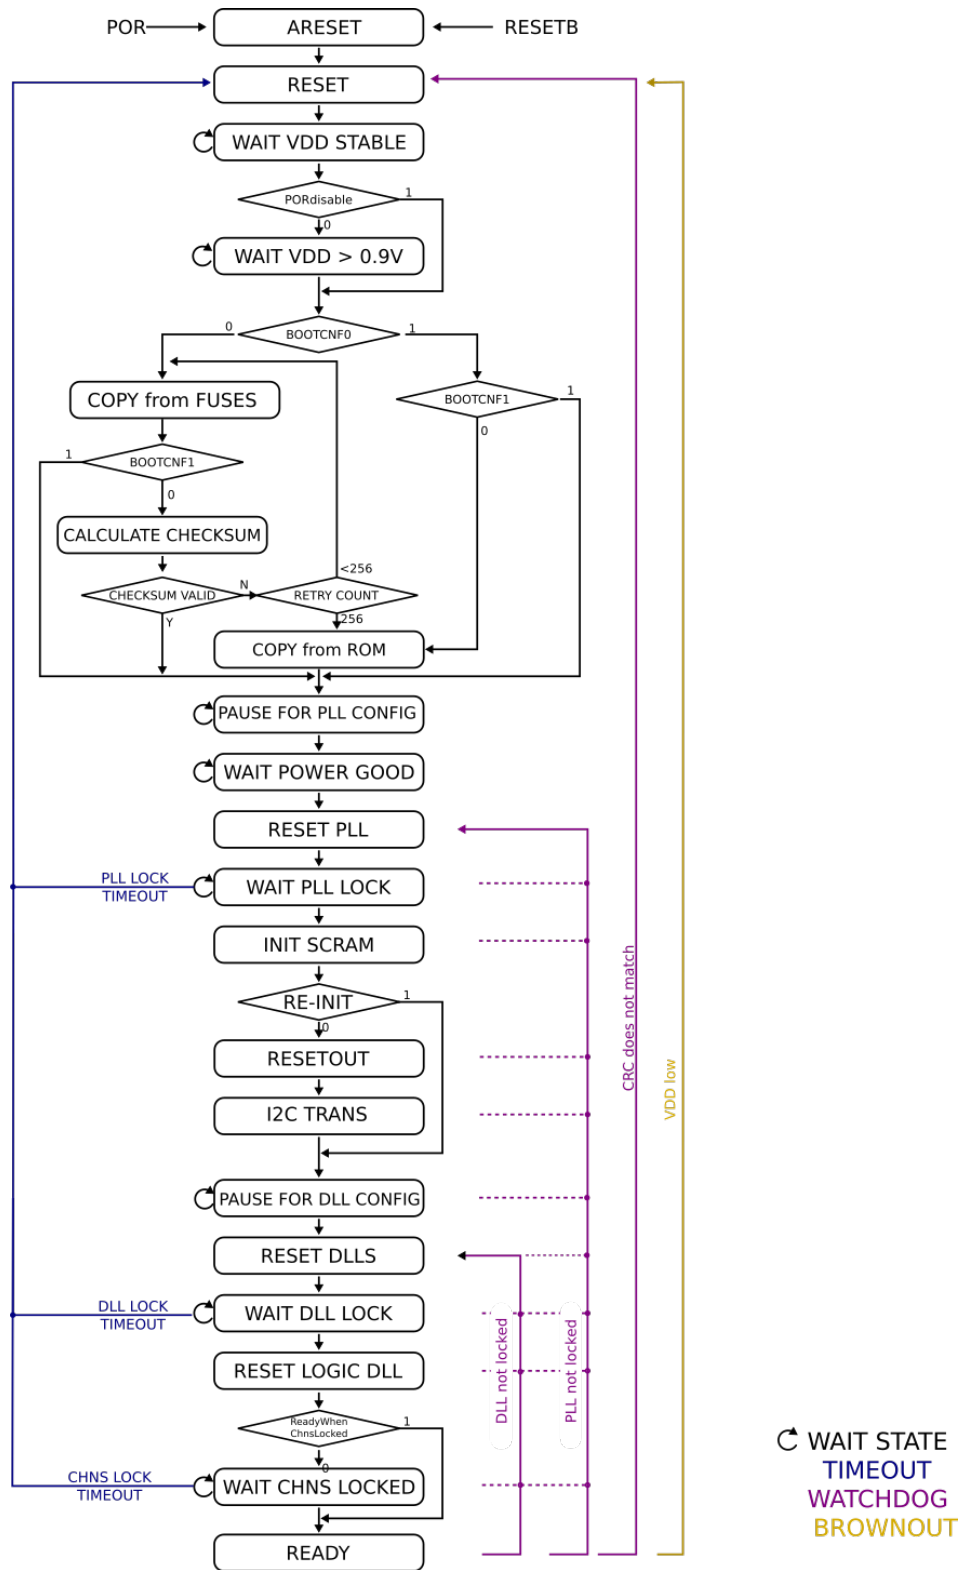

Fig. 8.1: The state diagram of power-up state machine.
The state diagram of the power-up FSM is shown in Fig. 8.1.
12. **RESETOUT** - in this state a *RSTOUTB* signal is deasserted. Since the *RSTOUTB* signal is active low it means that it will transition from low to high level in this stage. Whenever the IpGBT goes through the re-initialization sequence (**RE-INIT** is true on the Fig. 8.1) due to timeout action, brown out action or CRC mismatch action the **RESETOUT** state will be bypassed and therefore the chip will not generate another pulse on *RSTOUTB*. For more details please refer to Section 8.7.5.